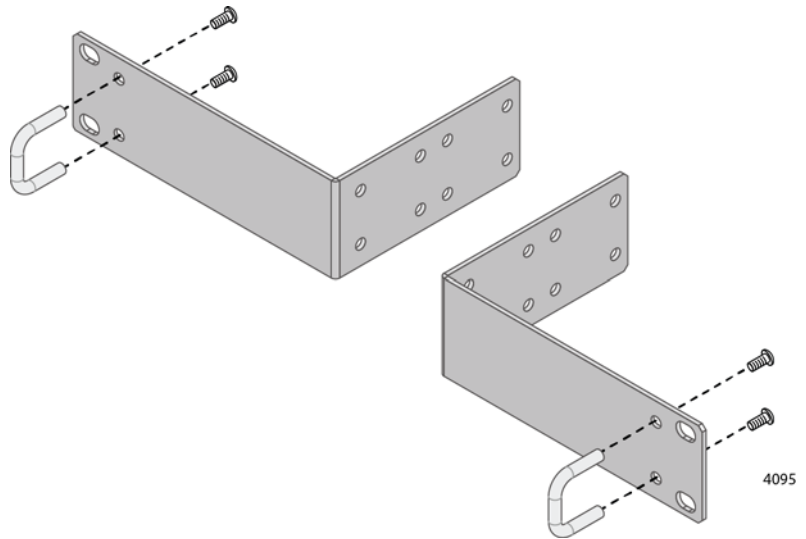

Figure 20. Attaching the Handles to the AT-RKMT-J14 Brackets
1. Attach the two handles to the AT-RKMT-J14 Brackets using the four M3x6mm screws included with the switch. Refer to Figure 20 on page 48.